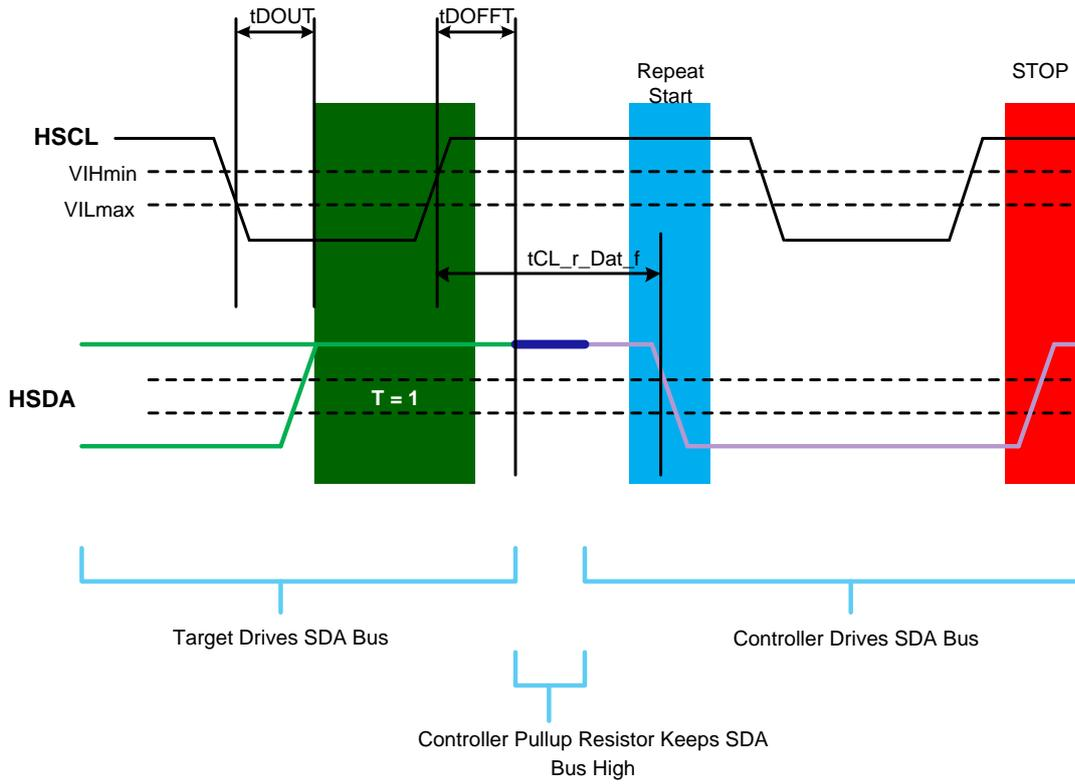

Figure 11. $T = 1$; Host Ends Read with Repeated START and STOP Waveform
6. See Figure 11 to see how Target device ends the operation followed by Host STOP operation.
6. See Figure 11 to see how Host ends Target device operation.